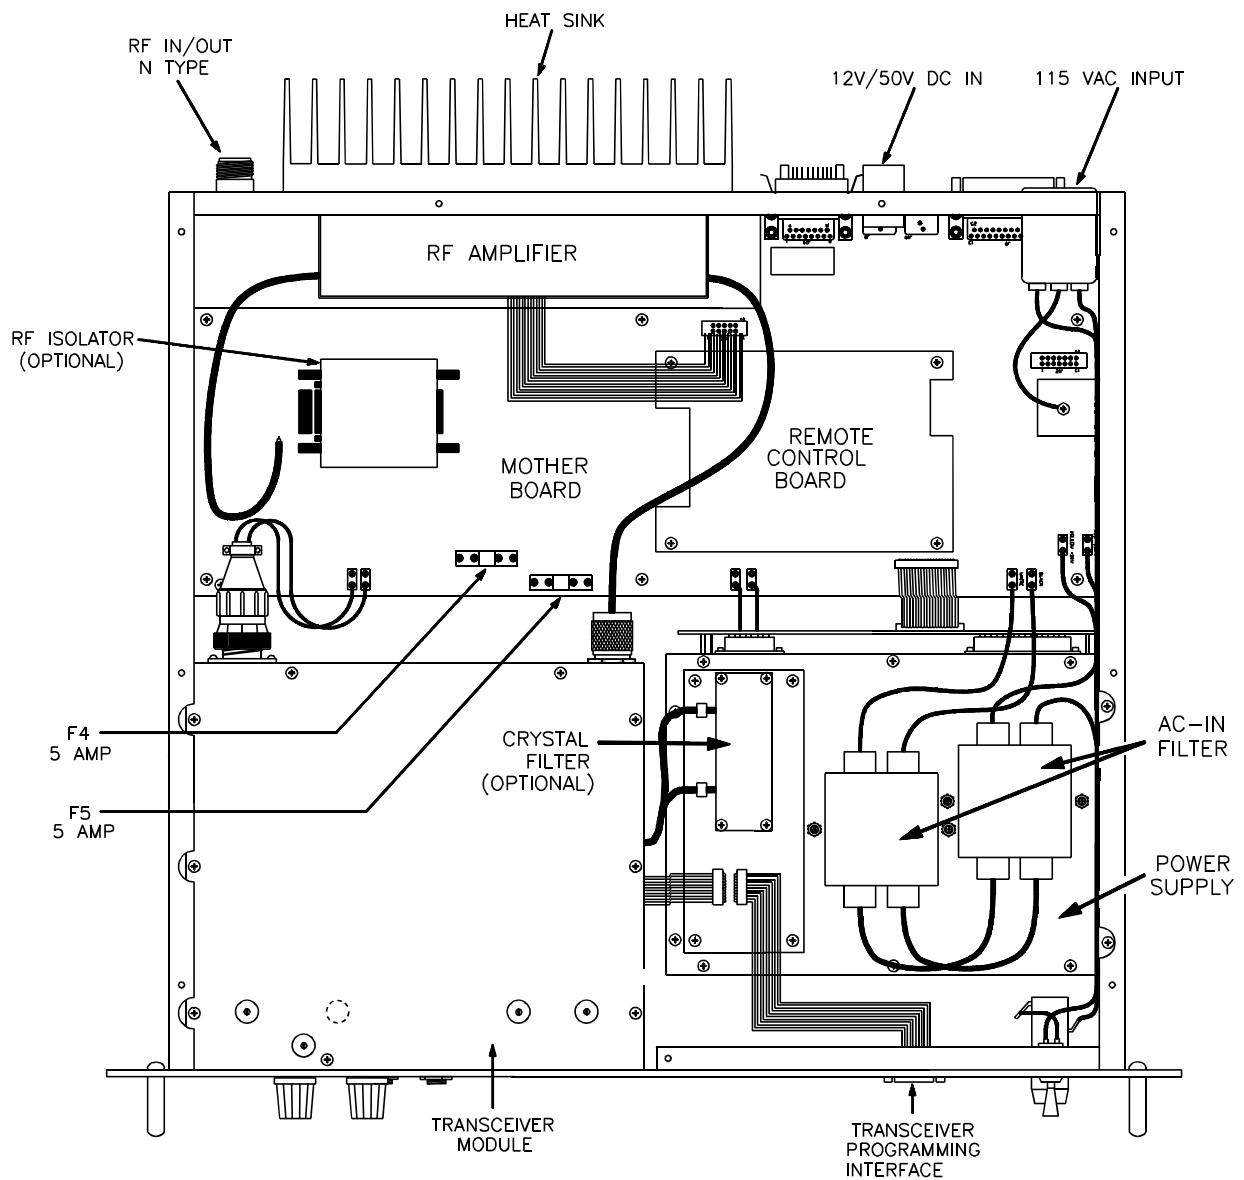

Figure 2-1 Single Channel Transceiver - Internal View
2.2 DISASSEMBLY/ASSEMBLY (Refer to Figure 2-1)
- (1) Remove and retain twelve screws securing top dust cover to the 19" rack chassis.
- (2) Please note the location of the three longer screws which travel through the heatsink shims rivetted to the inside of the top cover.
- (3) Lift cover clear of chassis to expose internal view of transceiver as shown in Figure 2-1.
- (1) Remove dust cover as described in paragraph 2.2.1, remove top cover of transceiver module.
- (2) Disconnect the two crystal filter co-axial cable leads for jumper J2/P3 on the Rx/Tx module A1, located in the transceiver module.
- (3) Remove and retain four screws securing Memory Set Board, Module A5A1 "piggy back" to the standoffs on the power supply cover. (See Figure 2-1 for location).